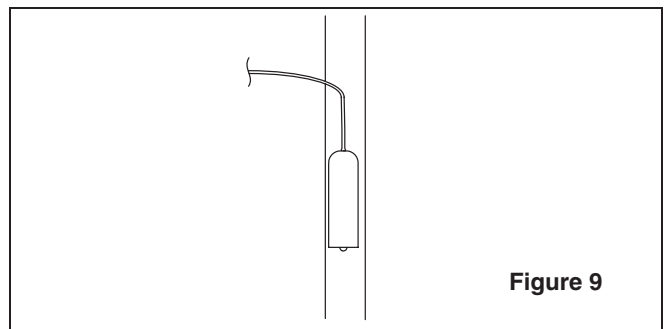

Figure 9
- Orient the sensing bulb with the tube exiting out the top to the vapor line extension onto a straight section of the refrigerant gas line as shown in Figure 9. Use the supplied TXV bulb strap shown in Figure 5 to secure the bulb in place. In some cases, the bulb strap is required when the new bulb size is different from the existing sensing bulb.